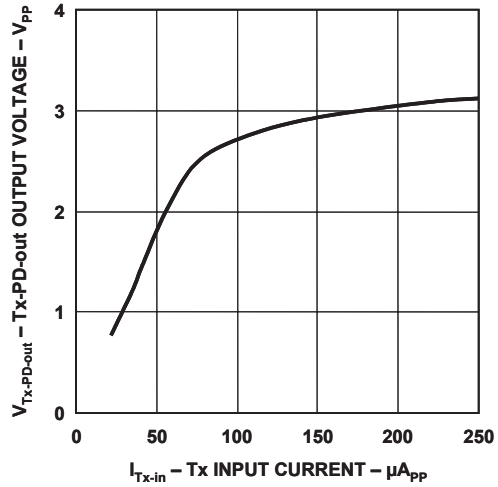
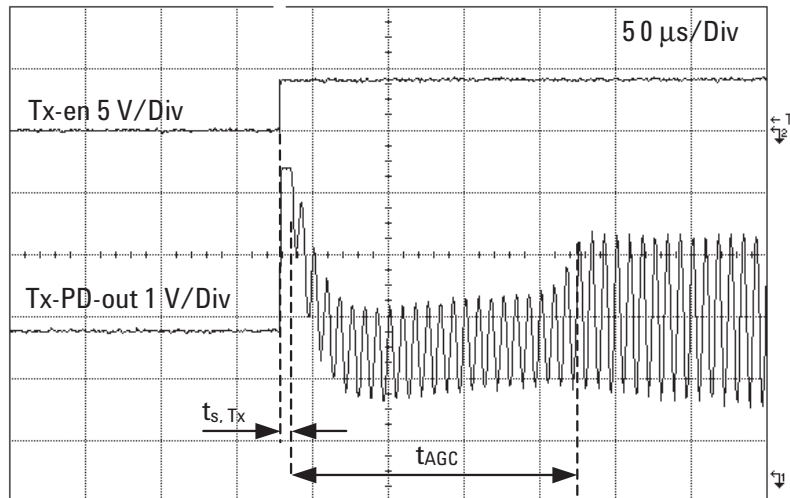

Figure 8. Tx-PD-out output voltage vs. Tx-in input current.
Figure 18. Tx-PD-out AGC response time.
1. Time from transmit is enabled (V_{Tx-en} is set to logic high) until output (Tx-PD-out) is available. See Figure 18 in the Application Information section.
2. Time from output (Tx-PD-out) is available until Tx-PD-out signal reaches 66% of its steady state level. See Figure 18 in the Application Information section.
This AGC circuit compensates for variations in the input signal level presented at Tx-in and variations in the optical channel over temperature and time. The Tx-PD-out output signal is effectively stabilized for input Tx-in signals of between $150 \mu\text{A}_{\text{PP}}$ and $250 \mu\text{A}_{\text{PP}}$ (see Figure 8). The AGC circuit starts to function $10 \mu\text{s}$ after the Tx-en signal is set to logic high. After a period of $180 \mu\text{s}$ the Tx-PD-out signal typically reaches 66% of its steady state level (see Figure 18). To ensure correct operation of the internal circuitry, an external $1 \mu\text{F}$ capacitor needs to be connected from pin 11 to GND2.